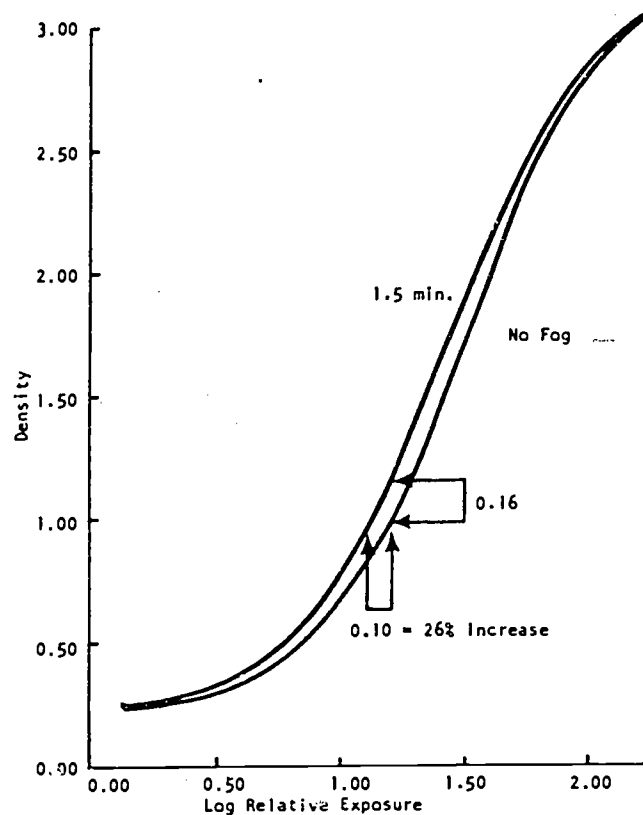

Figure 2. Effect of safe-light fogging on the H&D curve.
EXPLANATION: The observation which suggests the existence of safe-light fogging in this example is the elevated MD with little or no change in the DD or B+F. The basis of this effect is that the small exposure increases caused by safe-light fogging result in much larger increases in optical density in the medium density (straight line region of the H&D curve) range than in the high (Shoulder) or low (Toe) density ranges. Figure 2 demonstrates this effect (1). Thus, the safe-light may result in no density increase at the B+F point, and the small increases in both points used to calculate DD (one around 0.5 O.D. and one around 2.5 O.D.) may cancel each other out leaving only the increase observed on the MD. Safe-light fogging may be quickly verified by simply making a second sensitometric strip with all safe-lights turned off.